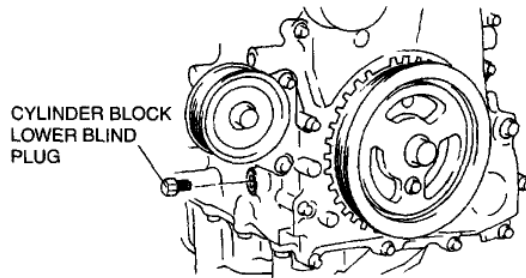

Figure 4. Cam Alignment Plate
2. Rotate the crankshaft clockwise until the crankshaft balance weight is contacting to the crankshaft using alignment pin 303-507 as shown in Figure 4 below. No.1 cylinder TDC.